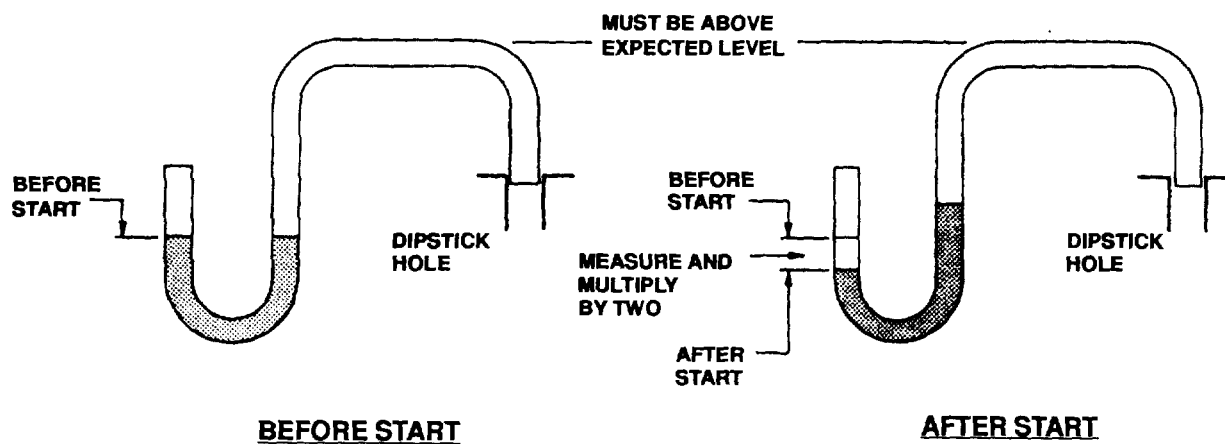

FIGURE 3-1. Locally Manufactured Water Manometer
**3-5.1. General.** The value depends to some extent on the type and size of air cleaner installed on the engine. Regardless of type air cleaner used, vacuum with a clean air cleaner must not be less than a minimum of 0.79 in. (20 mm) water gage (WG). The vacuum is measured with a manometer at the lubricating oil dipstick hole with the engine running. In engines in good condition vacuum increases slightly with engine speed but not proportionally. A fluctuating vacuum may indicate faulty oil seals, valves, or piston blow-by troubles. Crankcase pressure can cause serious oil leaks and often occurs in engines which need overhauling.
- b. If water manometer is available, connect one end of a 0.374 in. (9.5 mm) OD plastic tube to a water manometer. Insert other end of tube into dipstick hole. Refer to FIGURE 3-1.